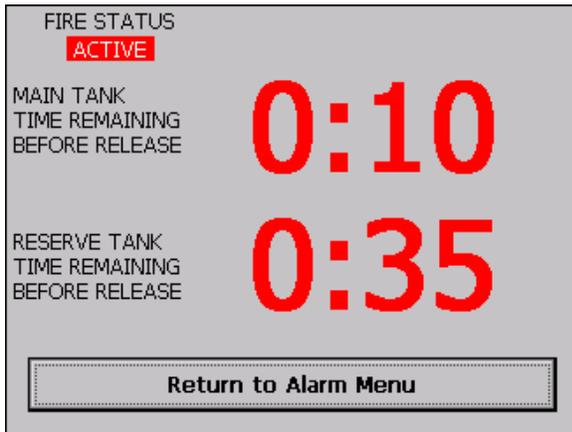

FIGURE 16.5 Dual time count down
□ The fire status ACTIVE sign (figure 16.5) turns to INACTIVE if the alarm device contacts open. The timers will continue to count based on the exceptions located in the check boxes and the real-time device in alarm.
□ Select the RETURN TO ALARM MENU to go back to figure 16.5.